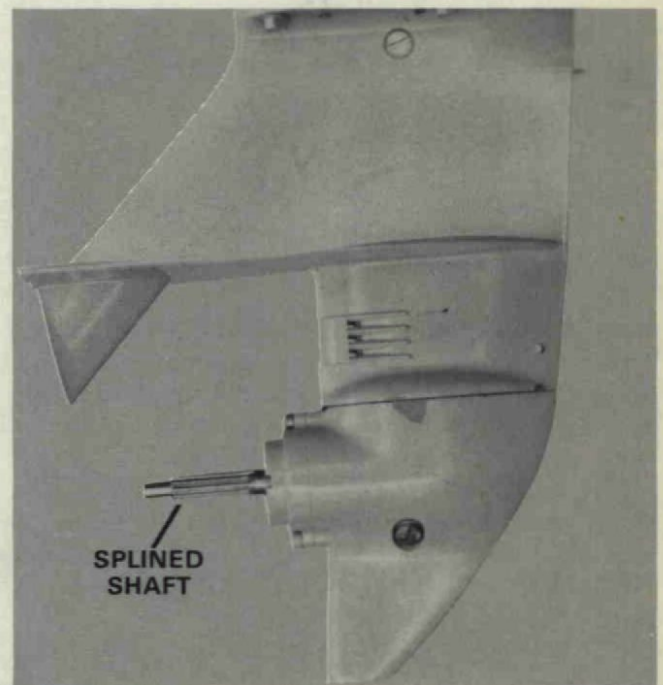

Figure 10. Lubricating Propeller Shaft.
5. Lubricate propeller shaft splines with anti-seize lubricant (Special Tool No. T 2987-1). Figure 10.